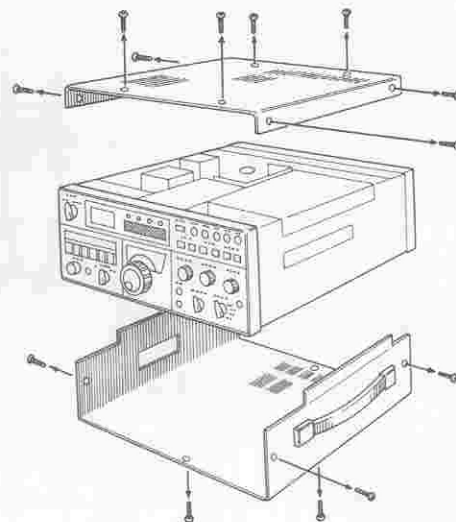

Fig. 1 Remove the Top and Bottom Covers
- Remove the bottom case by unscrewing nine screws, and place the unit bottom up as shown in Fig. 1.